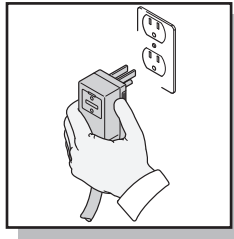

Fig. 15
- Unwind the power cord completely and plug the GFCI into a grounded 120 volt outlet. Press the 'reset' button on the GFCI box (Fig. 15). The indicator window should show a red color. This must be done each time the unit is plugged in.